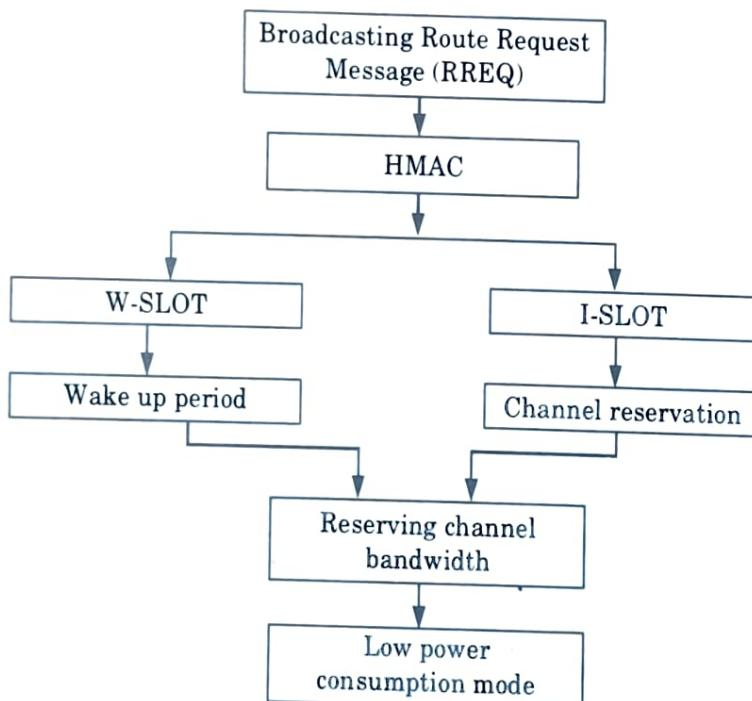

Fig. 3.10.1. Implementation of HMAC protocol.
- iii. Every node in the network is assigned a unique W-SLOT so that it can listen to other wakeup messages. Fig. 3.10.1 shows the implementation of HMAC protocol.